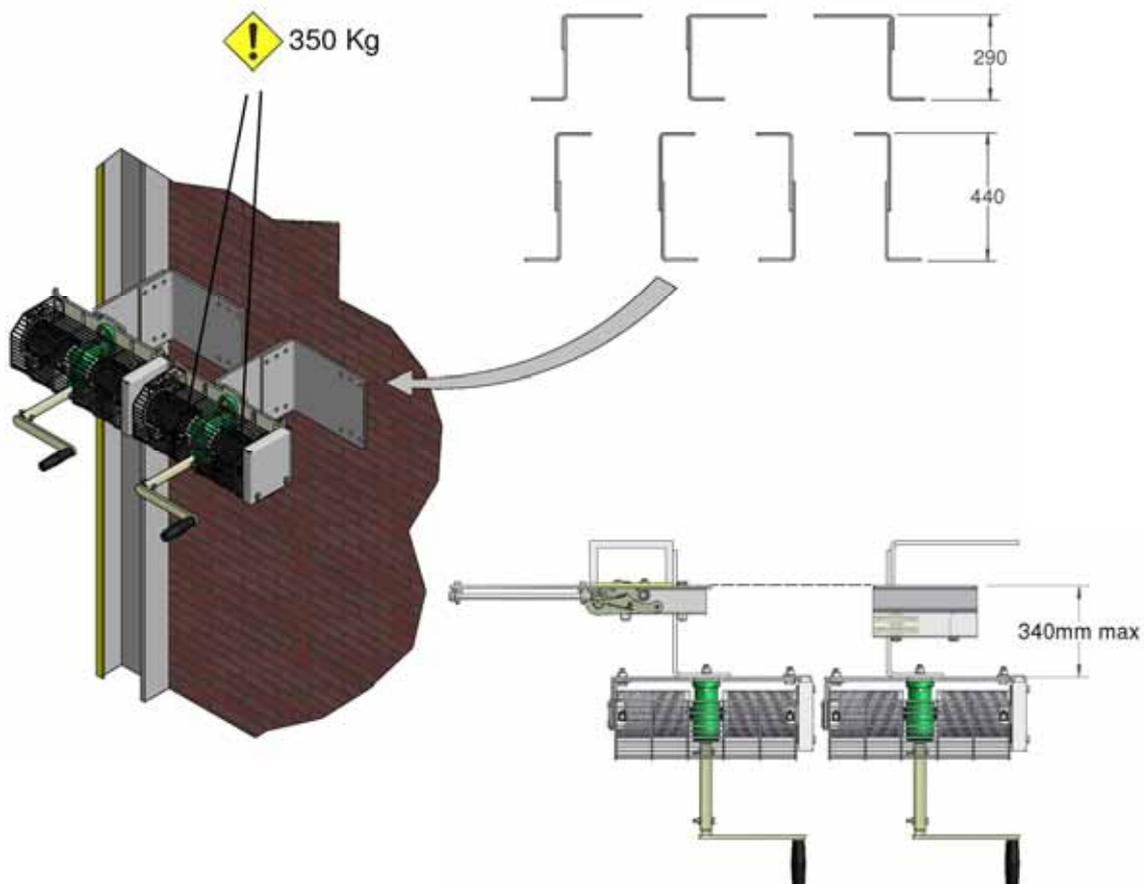

Figure 26
8.4 Replacing Section 2.3: Figure 26 shows the various fitting possibilities for the manual drive (B1) using the long and short faces of the two mounting plates (D1) supplied. Four M10 x 30 Bolts are supplied to fasten the two plates together with four M10 x 50 Bolts to secure mounting plates to a metal surface up to 25mm thick. (i.e. Plate, Channel, H-Beam, etc). Customer needs to supply own fastenings if securing to wood or concrete. Ensure the mounting surface can withstand the maximum door weight of 350kg.